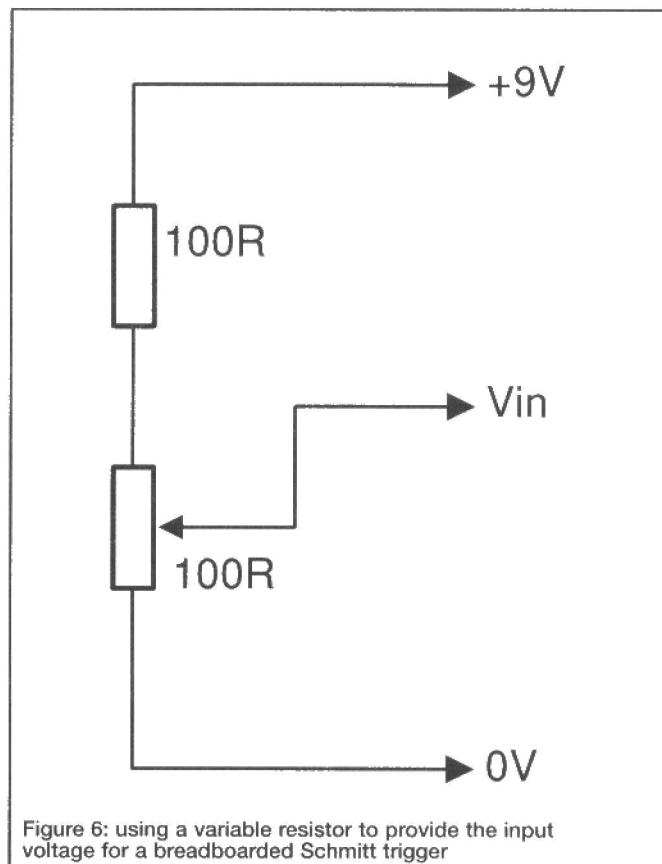

Figure 6: using a variable resistor to provide the input voltage for a breadboarded Schmitt trigger
2. Once the circuit has been switched off at 32°C by a rising temperature, the temperature has to fall to 25°C before it is switched on again. This avoids a situation in which a circuit is triggering on and off every few seconds. The gap between the two thresholds is known as the hysteresis of the circuit. If you are following this project on a breadboard, now is the time to set up the circuit, measure the thresholds and find the hysteresis. Use a variable resistor to produce the varying input, as in figure 6.
Run the program, insert the card (in the right position) when prompted, then press any key (for example, the space bar). A binary dump will soon appear on the screen, normally looking like the samples in figure 6. It can be hard-copied on the